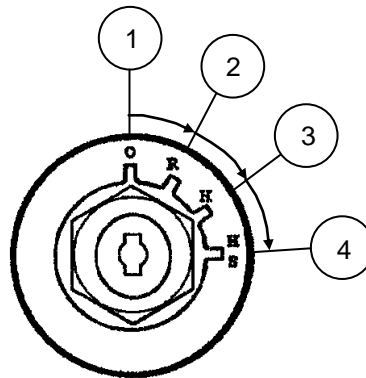

FIG. 10
If the engine is warm, turn the starter switch in a clockwise direction to the "HS" position (Fig. 10). As soon as the engine starts, release the switch to the "R" position.
- If the engine is cold turn the starter switch to the "H" position (Fig. 10) and hold it there for fifteen to twenty seconds. This brings the **cold starting aid** in to operation (see description below).